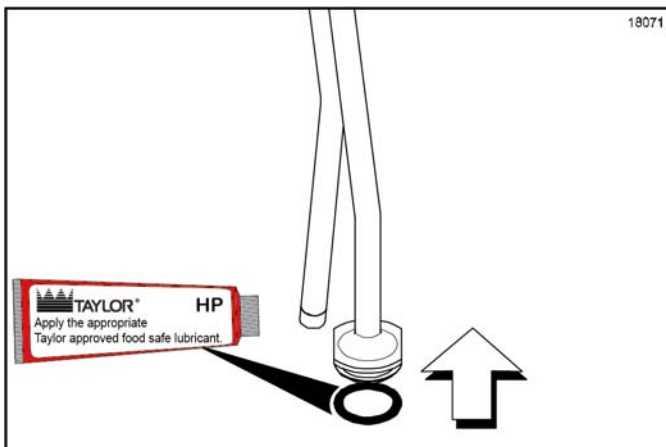

Figure 6-110
9. Lubricate and install the 1 in. O-ring onto the groove on the discharge tube. (See Figure 6-110.)